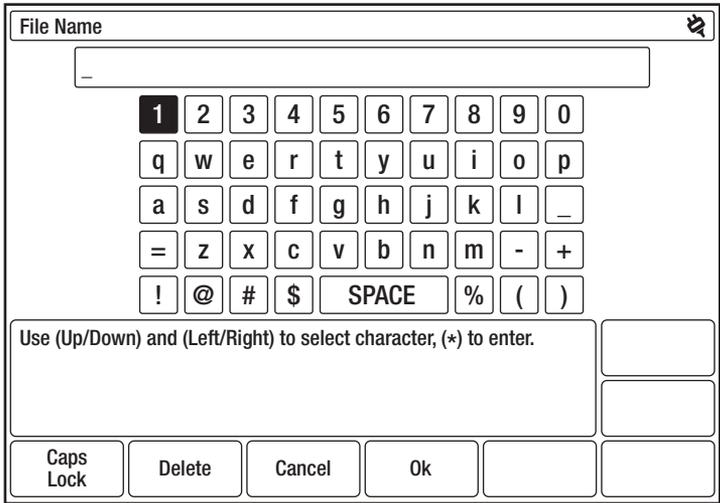

Figure 5-2: Save/Load – Waveform Name
1. Press the **Save** softkey to display **Save/Load – Waveform Name** (Figure 5-2).